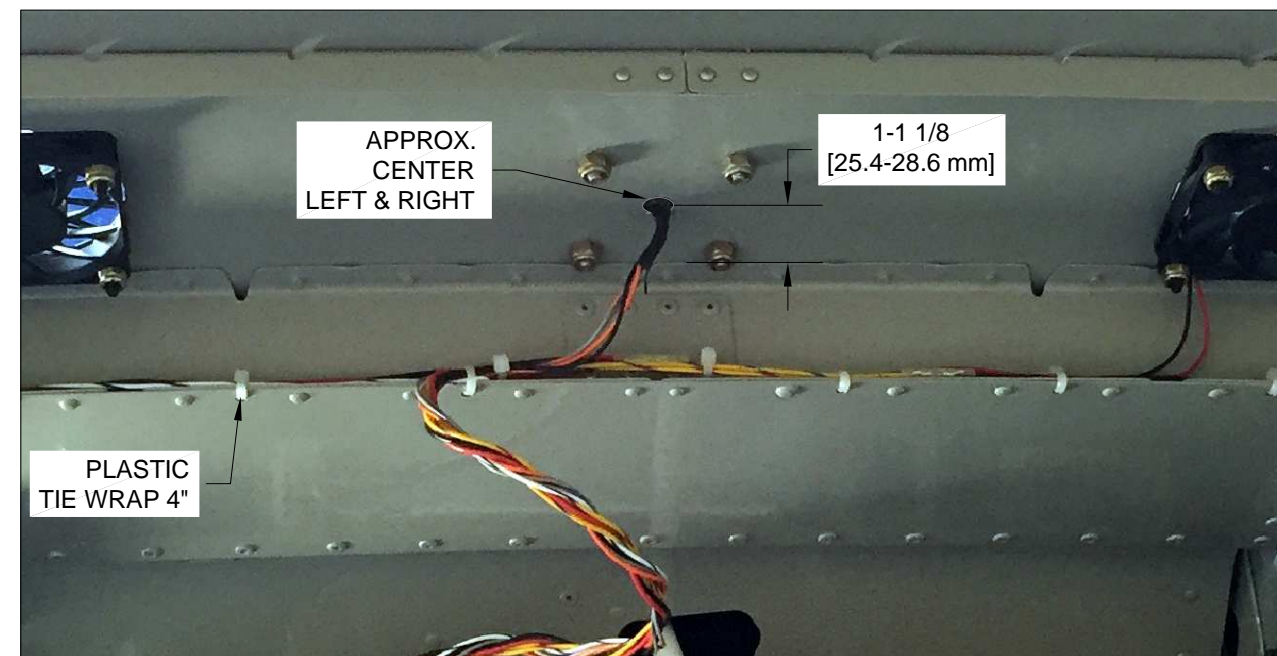

FIGURE 2: GPS ANTENNA LOCATION
Step 6 (Dynom): Use the manufacturers instructions, recommended hardware, and mounting dimensions to mount the antenna on the center right of the upper surface of the canopy skin. Take care not to locate any fasteners or protrusions so far aft that they interfere with the F-01467B Instrument Panel Flange Doubler. See Figure 2 and Page 61-06 Figure 2 for approximate location.